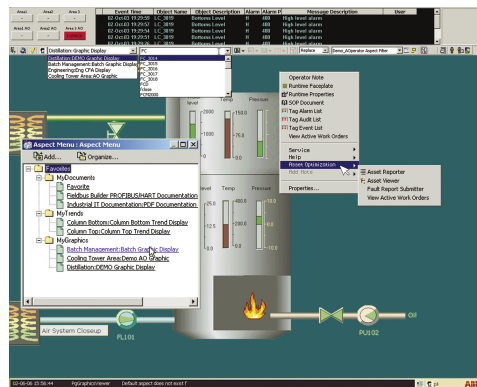

Figure 8. Intuitive and flexible contextual navigation
- **Intuitive and Flexible Navigation for Fast Information Access:** Familiar web browser tools provide quick access to displays and information. Favorites, history lists, shortcuts, and hot buttons provide navigation through a process production facility quickly and accurately. Use of the right mouse button provides access to additional details (Figure 8).